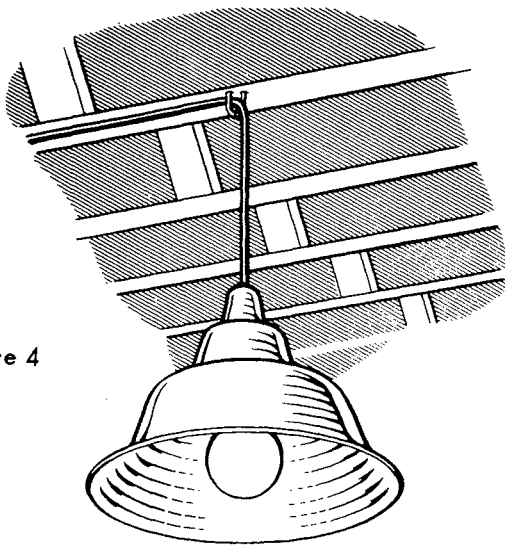

Figure 4
- 4. Heat lamps not properly supported by non-current carrying wire, chains, or brackets (Figure 4)